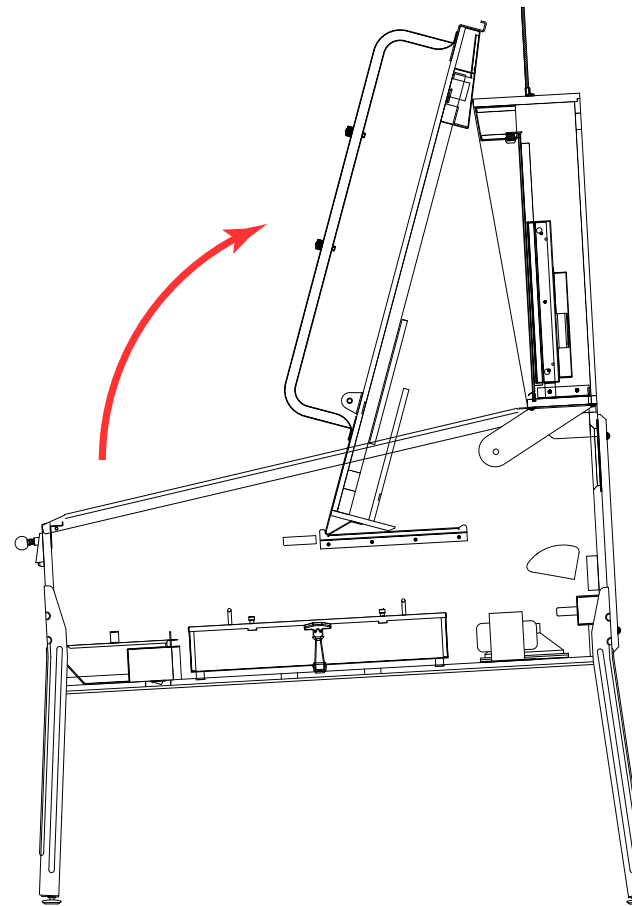

Figure A15. Moving the playfield to position 4.
16) Move the playfield from position 3 to 4 (figure A15). Pull it outward until the support/slide bracket stop is reached; then swing the playfield up, resting the bottom arch against the front of the backbox.